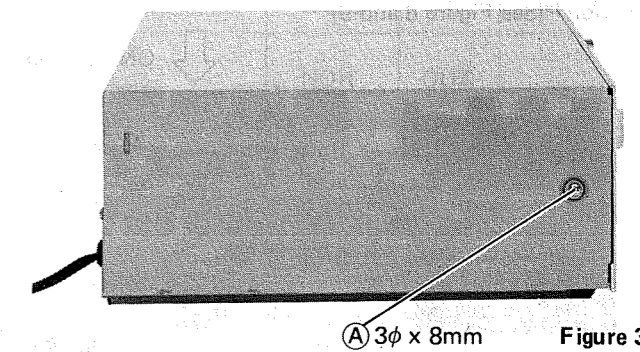

Figure 3
1. Remove two screws (A) (3φ x 8mm) from each side of top cover and three screws (B) (3φ x 8mm) from rear side of unit, then the top cover can be removed from the unit. (See Figure 3, 4 and 5)
1. Remove the top cover (Figure 3, 4 and 5).
1. Remove the top cover, (See Figure 3, 4 and 5)